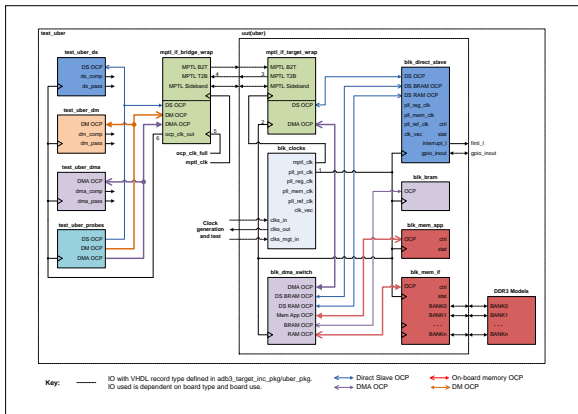

Figure 16: Uber Design Testbench And Top Level Block Diagram
The testbench for the **Uber** example FPGA design is implemented by `hdl/vhdl/examples/uber/common/test_uber.vhd`. Figure Figure 16 shows the testbench, with the top level of **uber** embedded in it.
- In OCP-only simulation (**TARGET_USE = SIM_OCP**), the UUT's main OCP clock (**pll_pri_clk** in this case) is routed out of the UUT via the **mptl_if_target_wrap** instance and into the testbench's instance of **mptl_if_bridge_wrap**. The **mptl_if_bridge_wrap** instance outputs this signal as **ocp_clk**. This route is shown in Figure 16 as the route consisting of points 1, 2, 3, 4 and 6.